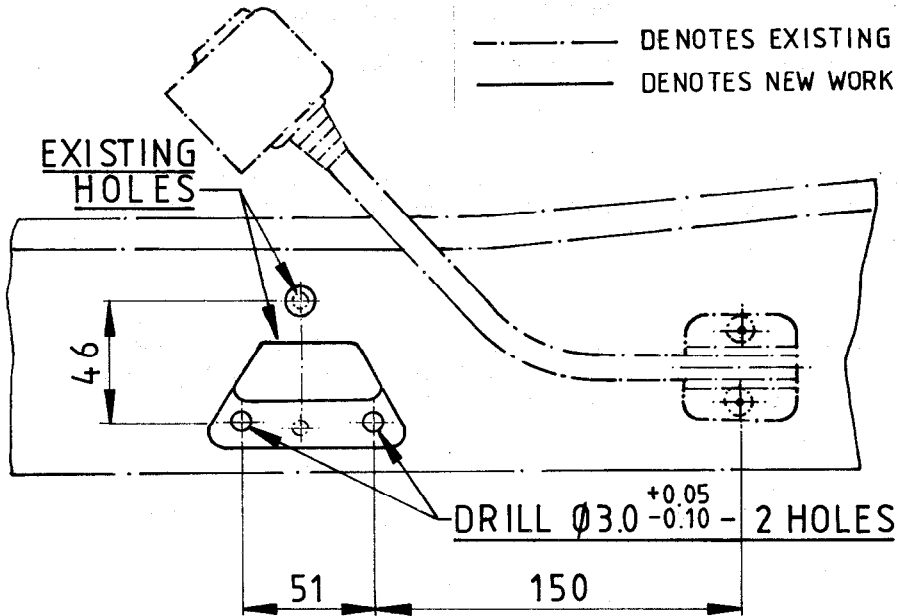

FIG 1 - DIMENSIONS MAPLIGHT CLIP
- b. Mark and drill the two holes on the front of the parcel tray to the dimensions shown in Fig 1.